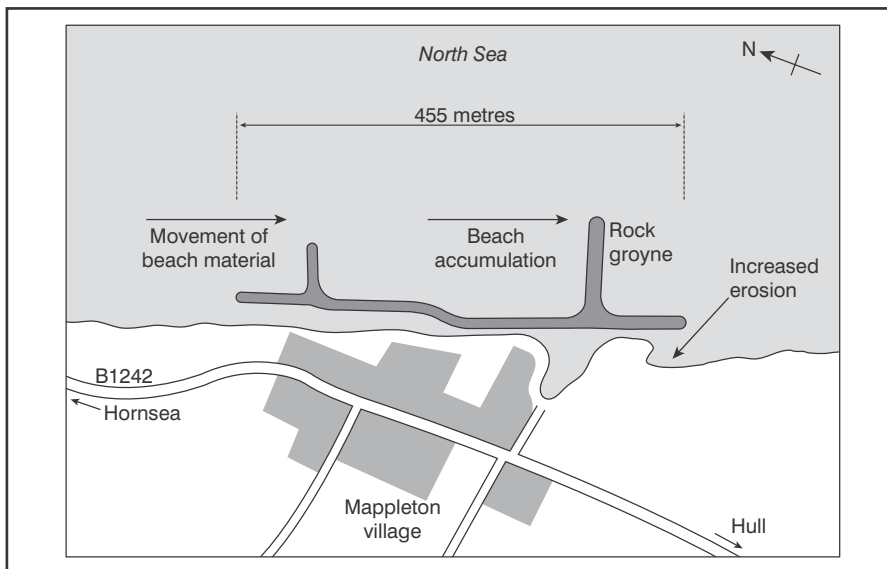

Figure 2: Mappleton's defences
Coastal protection is in place at specific settlements in the coastal zone – Bridlington, Hornsea, Mableton and Withernsea – as well as at the gas terminal at Easington and the site of a major land drain at Barmston. (Sea defences at Mableton and Easington gas terminal are shown in Figures 2 and 3.) There are also several private defences, associated with the large caravan parks at Skipsea and Ulrome; these have temporary planning consent. Away from these areas the coast is undefended. A total of 11.4 km currently have coastal protection, mostly through a mix of 19th-century structures and more recent upgrades, extensions and alterations. It is rare for a totally new scheme to be constructed.
**Mableton** The current defences at Mableton were constructed in 1991 after an economic case was made. Cliff erosion looked set to claim the village and the main road that links many of the coastal villages. The coast protection works were put in to defend 450 metres of cliff line using 61,500 tonnes of rock armour to build two groynes and a sloping **revetment** (Figure 2).